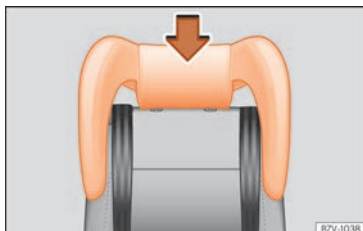

Fig. 96 Embedded child seat: attach the headrest.
- Enter the child seat head support in the corresponding backrest until it fits correctly into place »» Fig. 96.